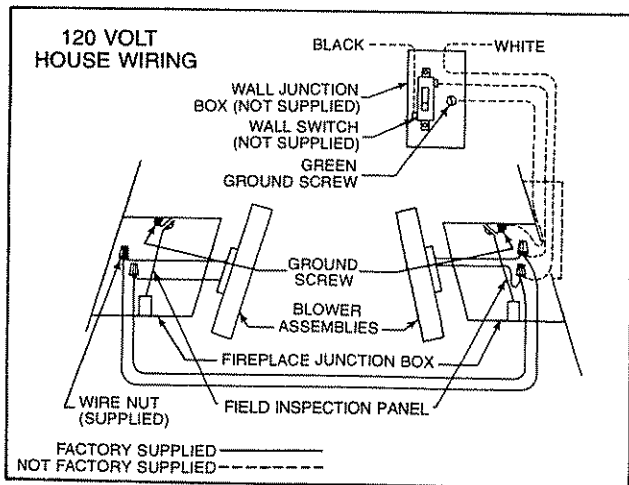
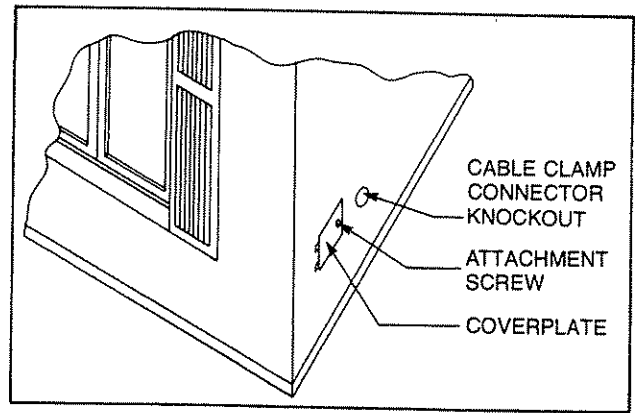

Fig. 15. Wiring diagram.
Fig. 15c. Install external junction box coverplate.
Electrical connection can be made to either the right or left side of the fireplace. Remove coverplate by removing one (1) attachment screw, (See Fig. 15c.). Remove the knockout from the side of the fireplace, (See Fig. 15c.). Attach cable connector, and run wiring through cable connector and secure in place, (See Fig. 15.). Six inch minimum length leads should protrude from connector, inside the junction box.
Connect incoming leads as shown on wiring diagram, Fig. 15. The ground wire must be attached under green grounding screw in the junction box. Replace wiring in junction box and reinstall coverplate with screws provided. Turn on electrical power and activate wall switch to verify operation of fans. If both fans are operating, electrical installation is complete.